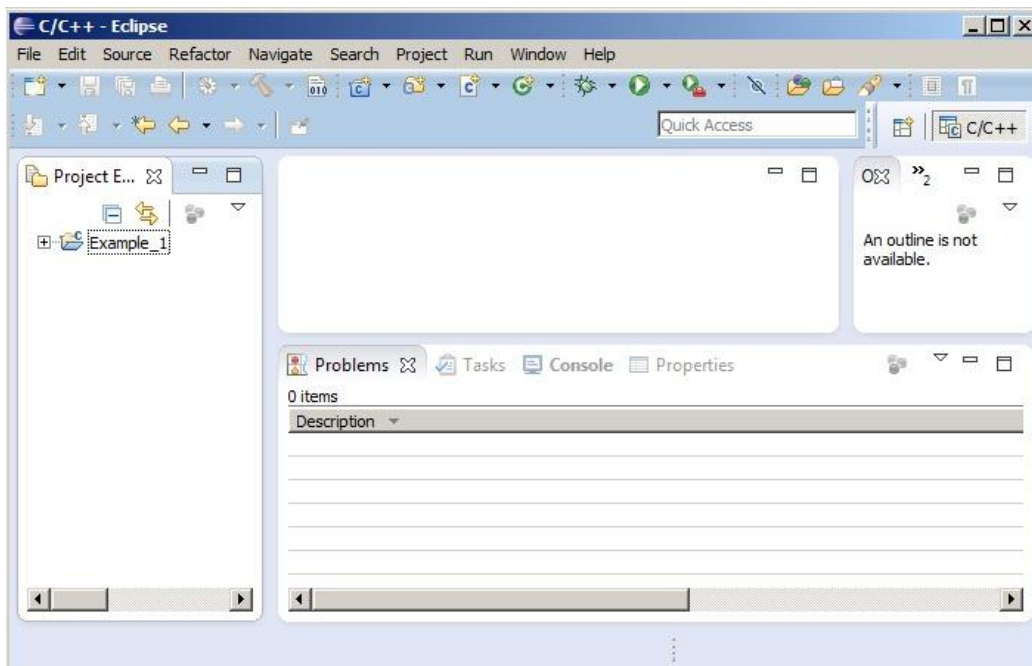

Fig. 8: Eclipse: Example_1 is the new M2M Project
- Right Click on "Example_1", the name of the project, refer to Fig. 8.